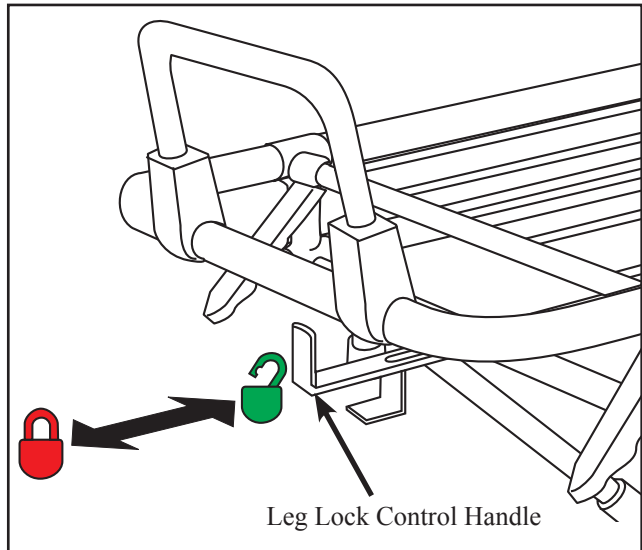

Figure 1 - Using the Undercarriage Leg Lock
2. Pull the lock handle (Figure 1).